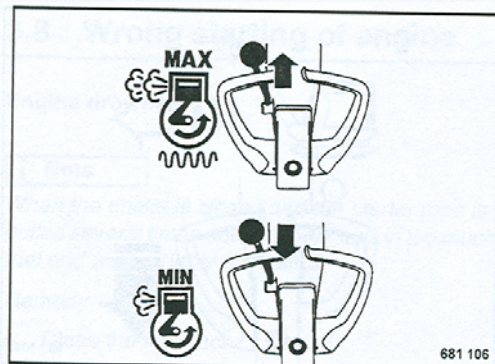

Fig. 26
- Keep moving throttle lever (Fig. 26) between "MIN" und "MAX" throttle.